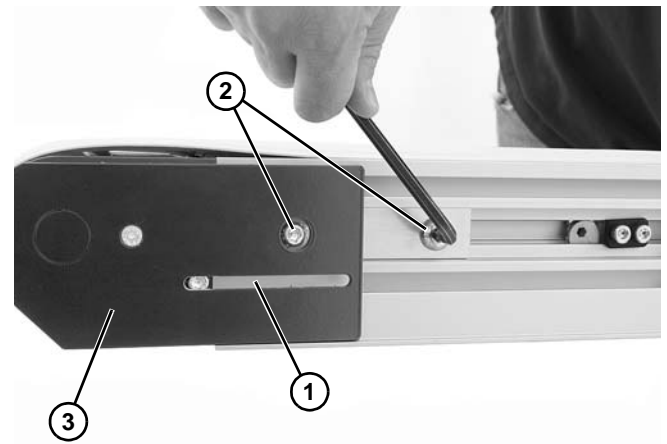

Figure 49
4. On tension end of the conveyor, identified by the pinion access slot (**Figure 49, item 1**), loosen the two tail clamp bolts (**Figure 49, item 2**) on both sides of the conveyor and push head plate assembly (**Figure 49, item 3**) inward.